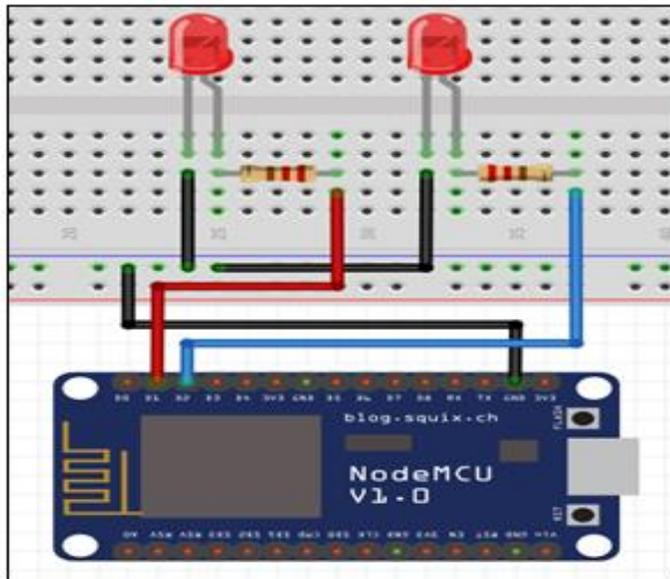

Figure A2
- 3) Make the connection of 2 LEDs, 2 resistors with Nodemcu as shown in Figure A2.